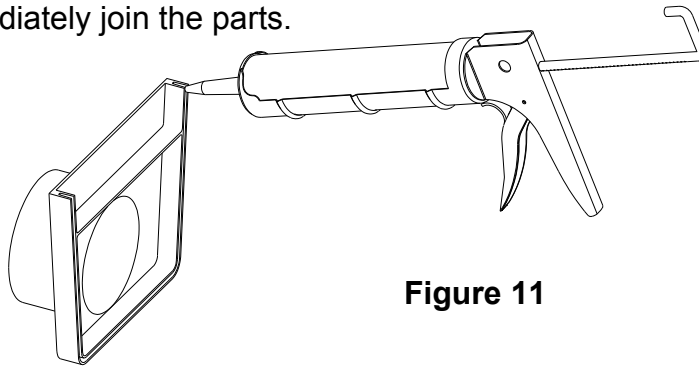

Figure 11
5. Locate the Paste PVC Cement tubes supplied with the system. Cut the tube tip as close to the end as possible to leave a small hole in the end. Apply the Paste PVC Cement to the gutter end cap by completely filling the groove of the end cap as shown in Figure 11. **Wear EYE protection.** Do not allow the PVC cement to form a film prior to coupling the parts together. Once the cement is applied immediately join the parts.